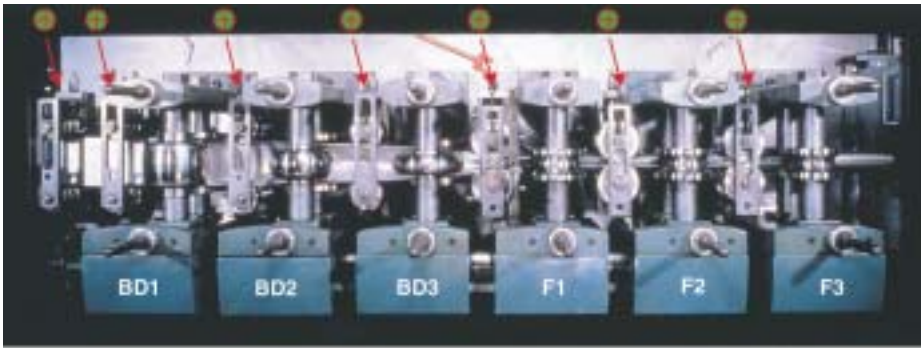

Figure 2
**Figure 2** shows a typical integral-gearbox tube mill from the entry table to the end of the fin passes. Symbols BD1 through BD3 indicate the three breakdown forming passes. Symbols F1 through F3 show the three fin forming passes. The red circles with the X's in their centers indicate the idle or side-guiding passes between the driven passes. The flat strip enters at the left-hand side of the image and exits the mill on the right-hand side as an almost fully closed but unwelded tubular shape. So the answer to the second question, Where are they? is this: Fin passes are located between the breakdown and welding zones of the tube mill.